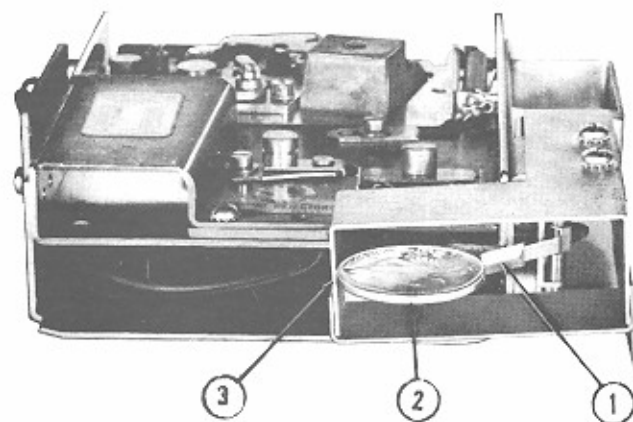

Fig. 12. SLUG REJECTOR, 50¢ - ADJUSTMENTS
(3) The 50¢ slug rejector has a single coin switch (Fig. 12), however the adjustment requirements are similar to those described in (2). This work may be done by removing the slug rejector and holding it in an upright position to make the mechanical adjustments and tests.